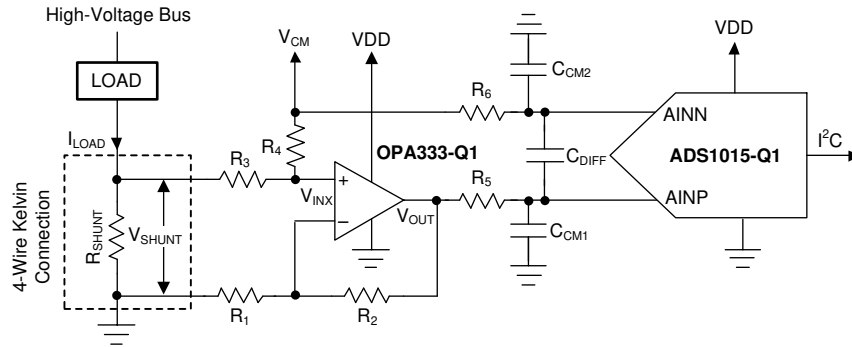

Figure 8-6. Low-Side Current Shunt Monitoring
Shunt-based, current-measurement solutions are widely used to monitor load currents. Low-side, current-shunt measurements are independent of the bus voltage because the shunt common-mode voltage is near ground. Figure 8-6 shows an example circuit for a bidirectional, low-side, current-shunt measurement system. The load current is determined by measuring the voltage across the shunt resistor that is amplified and level-shifted by a low-drift operational amplifier, OPA333-Q1. The OPA333-Q1 output voltage is digitized with ADS1015-Q1 and sent to the microcontroller using the I²C interface. This circuit is capable of measuring bidirectional currents flowing through the shunt resistor with great accuracy and precision.
- To level-shift the ground-referenced signal to allow bidirectional current measurements while running off a unipolar supply. The voltage across the shunt resistor, V_{SHUNT} , is level-shifted by a common-mode voltage, V_{CM} , as shown in Figure 8-6. The level-shifted voltage, V_{INX} , at the noninverting input is given by Equation 3.
A shunt resistor (R_{SHUNT}) is an accurate resistance inserted in series with the load as described in Figure 8-6. If the absolute voltage drop across the shunt, $|V_{SHUNT}|$, is a larger percentage of the bus voltage, the voltage drop can reduce the overall efficiency and system performance. If $|V_{SHUNT}|$ is too low, measuring the small voltage drop requires careful design attention and proper selection of the ADC, operation amplifier, and precision resistors. Make sure that the absolute voltage at the shunt terminals does not result in violation of the input common-mode voltage range requirements of the operational amplifier. The power dissipation on the shunt resistor increases the temperature because of the current flowing through the resistor. To minimize the measurement errors resulting from variation in temperature, select a low-drift shunt resistor. To minimize the measurement gain error, select a shunt resistor with a low tolerance value. To remove the errors caused by stray ground resistance, use a four-wire Kelvin-connected shunt resistor; see Figure 8-6.